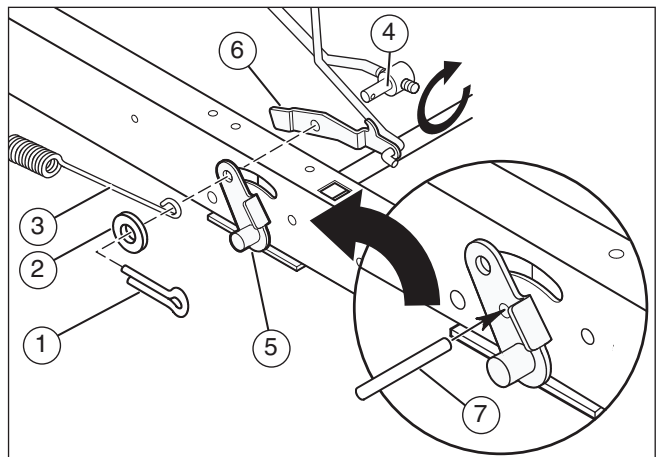

Figure 27
2. Remove the cotter pin (1), washer (2), and brake spring (3) from the adjustable nut (4) (see **Figure 27**).